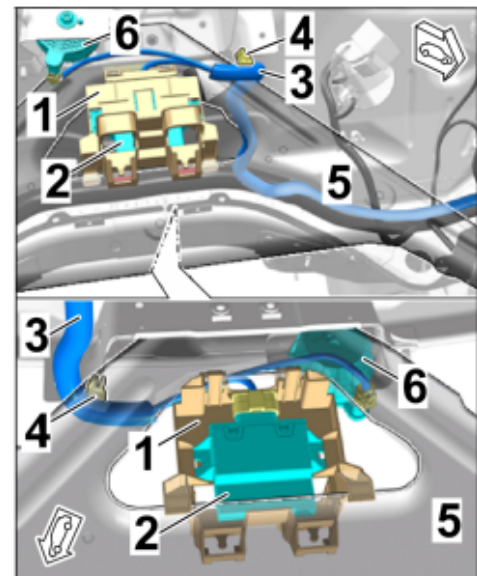

Figure 13
2.1.4 Establish a plug connection from the wire harness for the engine noise control unit (⇒ *Figure 13 -3-*) to the engine noise control unit (6-pin ⇒ *Figure 13 -2-*).
2.1.5 Fit the holder with the engine noise control unit to the strut brace (plenum panel area) (⇒ *Figure 13*).